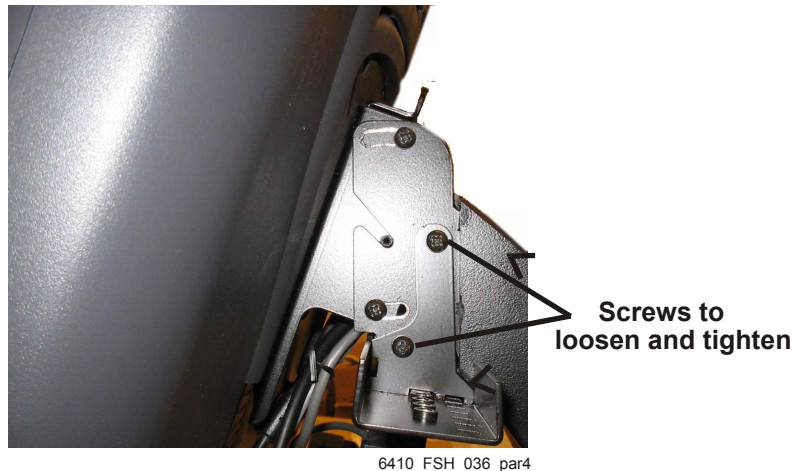

Figure 34 Mounting Hardware Adjustment
- a** Loosen the screws shown in Figure 34.